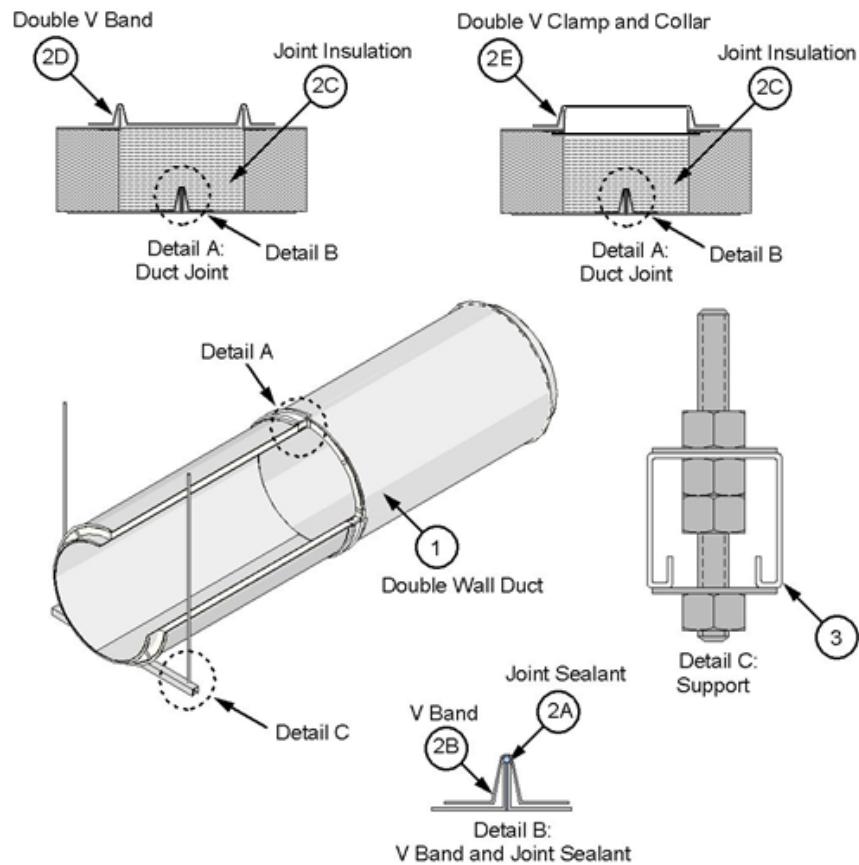

Figure 1. Double Wall Duct and Horizontal Support
- B. **V BAND** – Use the supplied V band (see Figure 1). Place the loose V band, filled with joint sealant (Item 2A), over one of the inner duct flanges. Join to the other inner duct flange with the continuous bead of joint sealant (Item 2A) and rotate slightly to ensure complete coverage of joint sealant (Item 2A) on flanges. Ensure that the flanges are located within the V band and that the V band hardware is not at the bottom side of a horizontal duct. Tap the V band while tightening the integral 1/4-20 hardware to ensure flanges are aligned and pulled together. Tighten to 40-60 in.lbs.
- D. **DOUBLE V BAND** – Use the supplied double V band (see Figure 1) for grease duct diameters ≤ 24 in. Place double V band with the grease duct outer shell flanges seated in the V band; tighten integral 1/4-20 hardware to 40-60 in.lbs.
- E. **DOUBLE V CLAMP AND COLLAR** – Use the supplied double V clamp and collar (see Figure 1) for grease duct diameters > 24 in. Use the sheet metal collar to retain the joint insulation; overlap collar ends and fasten together with min. two min. size #6 sheet metal screws. Place double V clamp with the grease duct outer shell flanges seated within the clamp recess; tighten integral 1/4-20 hardware to 40-60 in.lbs.
- A. **HORIZONTAL SUPPORTS** – Support the pre-fabricated grease duct (Item 1) using min. 12 GA, 1-5/8 in. x 1-5/8 in. Unistrut® channel or 2 in. x 2 in. x 1/4 in. steel angle as the supporting cross-member and two min. 1/2 in. diameter, threaded steel rods connected using Grade 5 hex nuts and 1/2 in. hardened washers (see Figure 1, Detail C). For